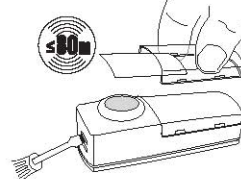

Fig. 3
3. Carefully lift off the transparent cover so that you can put your name under it. Press the transparent cover back in place (Fig. 3).
4. Use a screwdriver to open the remote push-button case and gently press it into the top slit of the lock and then remove the case cover (Figs. 3+4).